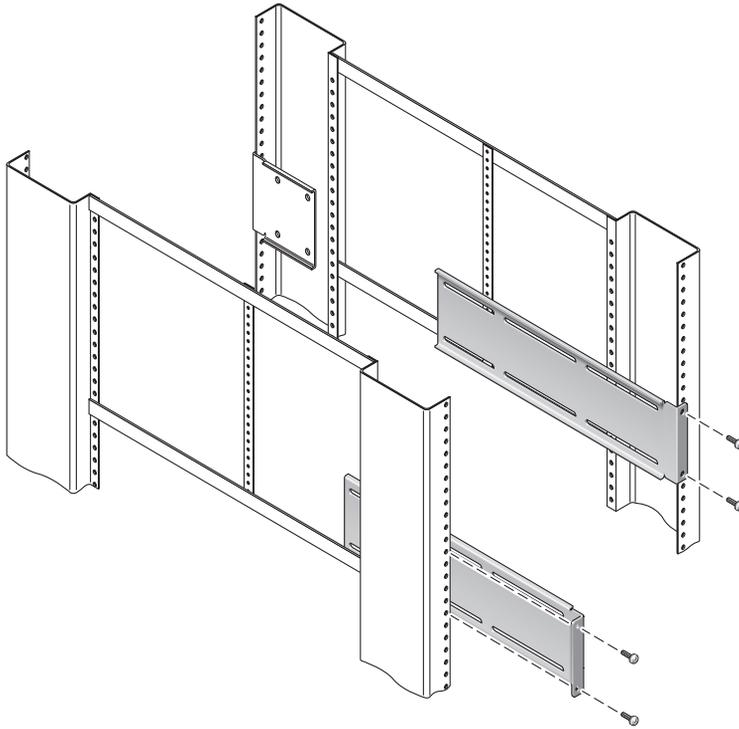

FIGURE 3-11 Securing the Long Brackets to the Rear of the Rack
8. Lift each long bracket to the desired position at the rear of the rack and attach a long bracket to each of the rear rack uprights (FIGURE 3-11).